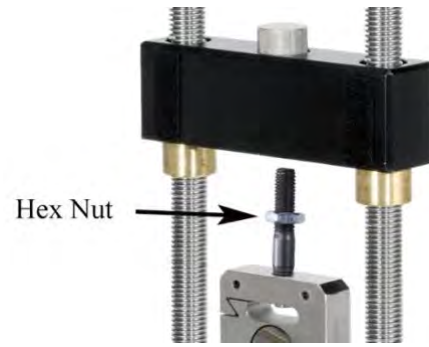

Figure 7: Compression Calibration
4. The Calibration Rod can be used to make a compression compliance calibration, using the thin hex nut. Install the Calibration Rod with the hex nut as shown in Figure 7, then turn the crank to lower the cross-head.